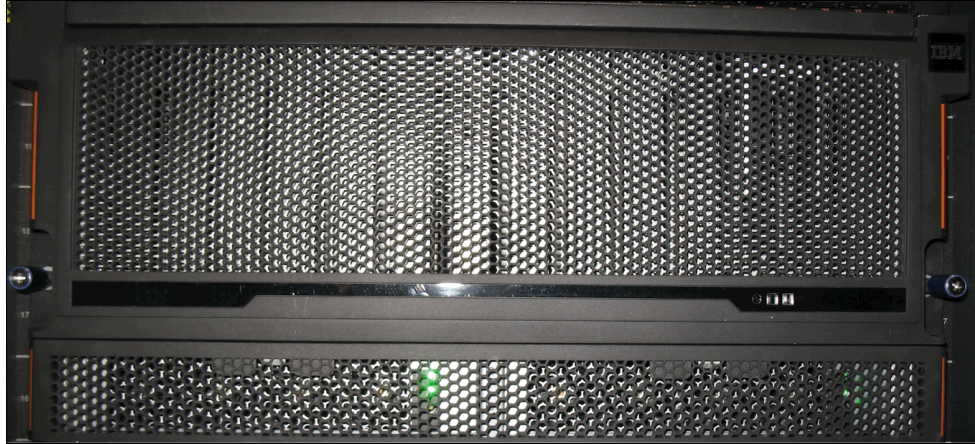

Figure 1-22 2145 LFF HD expansion enclosure
- Figure 1-22 on page 45 shows the large form factor high-density (LFF HD) expansion enclosure, which can hold ninety-two 3.5-inch drives (or ninety-two 2.5-inch drives in carriers) and is 5U high.